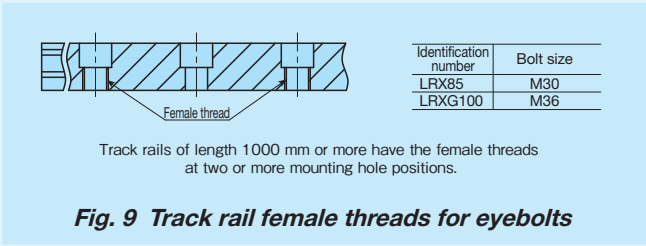
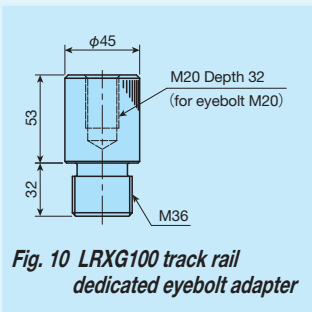

Fig. 9 Track rail female threads for eyebolts
Fig. 10 LRXG100 track rail dedicated eyebolt adapter
⑤ Remarks
- As LRX(D)(G,L)85 and LRXG100 are heavyweight products, we recommend the use of eyebolts for transport and assembly. For eyebolt mounting, use the slide unit mounting holes and the track rail female threads for eyebolts (Fig. 9). For the LRXG100 track rail, also use the LRXG100 track rail dedicated eyebolt adapter (Fig. 10).